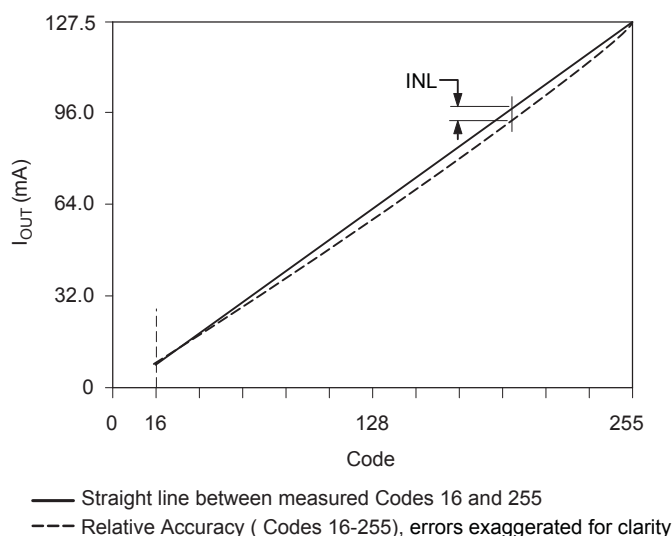

Figure 1. Relative accuracy error
**Relative accuracy (INL)** This error is calculated by measuring the worse case deviation from a straight line, defined from end points. The straight line end points are defined by the actual measured values at Code = 16 and Code = 255. See figure 1.